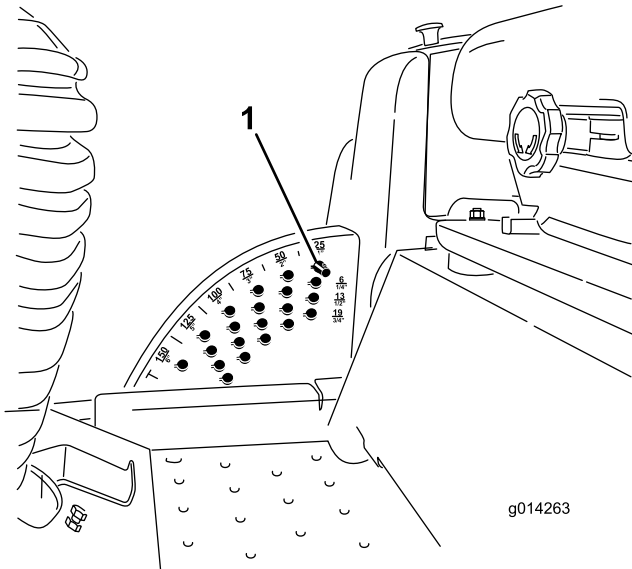

Figure 16
**Note:** To lock the mower deck/attachment in a raised position, raise the deck past the 15 cm (6 inch) position, remove the height of cut stop pin (refer to Adjusting the Height-of-Cut), and place the pin in the 15 cm (6 inch) height-of-cut position (Figure 16).
1. With the engine running, push back on the deck lift switch until the mower deck is fully raised and **release the switch immediately** (Figure 16).
2. To adjust, rotate the stop pin until the nub on it lines up with the slots in the holes in the height-of-cut bracket and remove it (Figure 16).
3. Select a hole in the height-of-cut bracket corresponding to the height-of-cut desired, insert the pin, and rotate it down to lock it in place (Figure 16).
**Note:** There are four rows of hole positions (Figure 16). The top row gives you the height of cut listed above the pin. The second row down gives you the height listed plus 6 mm (1/4 inch). The third row down gives you the height listed plus 12 mm (1/2 inch). The bottom row gives you the height listed plus 18 mm (3/4 inch). For the 15.8 cm (6 inch) position there is only one hole, located in the second row. This does not add 6 mm (1/4 inch) to the 15.8 cm (6 inch) position.